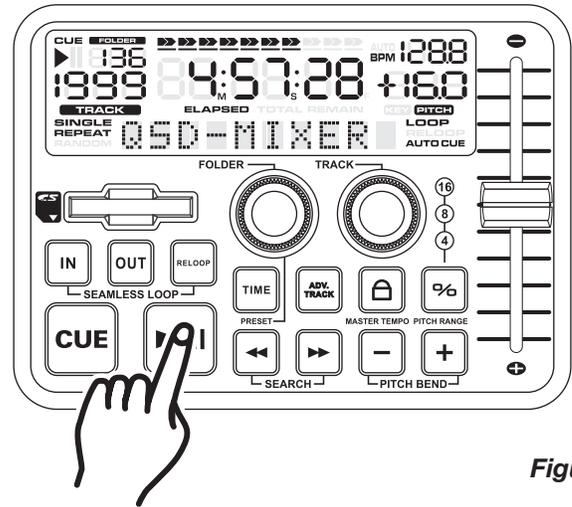
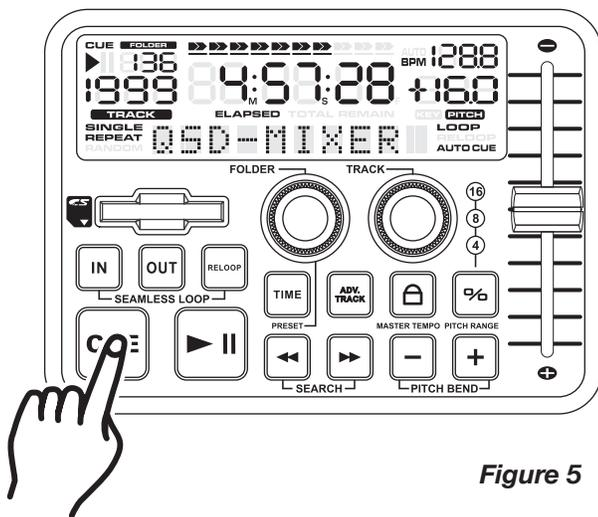
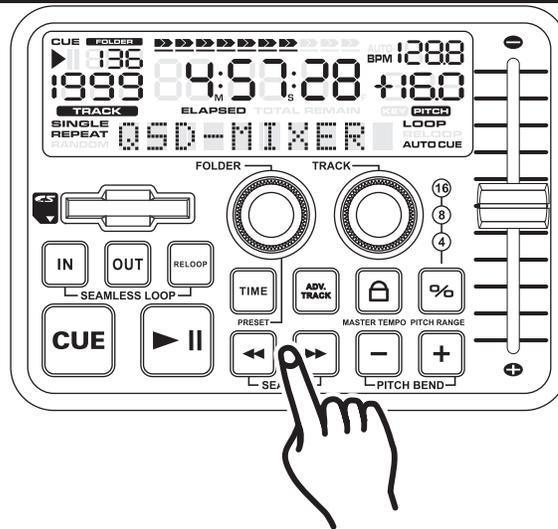

Figure 4
Figure 5
Figure 6
3. STARTING PLAYBACK - Figure 4
4. PAUSING - Figure 4
6. STOPPING PLAYBACK - Figures 4 & 5
This feature allows you to scroll through a track frame by frame, allowing you to find and set a starting cue or loop point. To use the scroll function you must first be in Pause Mode (see section 4) or Cue Mode (see section 5). Once you are in Pause or Cue mode, press the *SEARCH BUTTONS* (31) to scroll through the track (Figure 6). When you use the *SEARCH BUTTONS* (31) the monitor (headphone level) function allows you to hear what you are scrolling through. Once you reach your desired starting point you can set a cue (starting) point by pressing the *PLAY/PAUSE BUTTON* (33) as in Figure 4. Pressing the *CUE BUTTON* (34) as in Figure 5 will now return you to the point you just set.